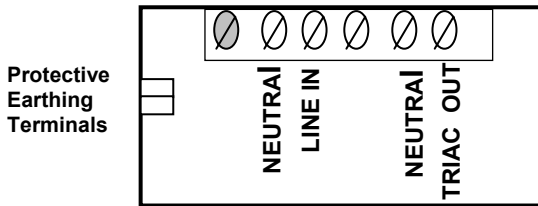

Figure 4
6. Connect each wire to the appropriate locations noted in the table below and secure the wires in the terminal block and protective earthing terminal by turning each screw clockwise. (*Refer to the MX001 box or to Figure 4 for the order of the terminals for the power wires.*)